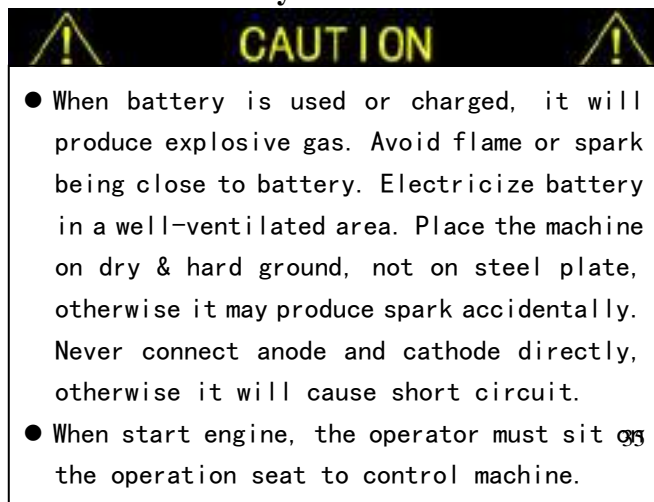
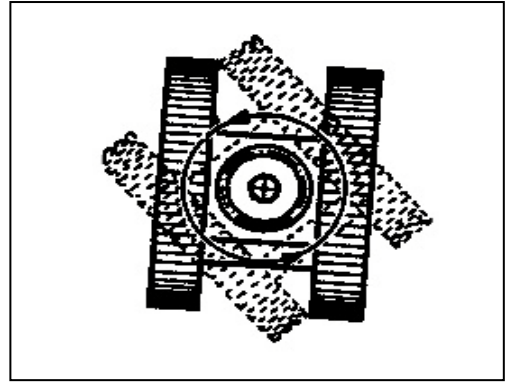
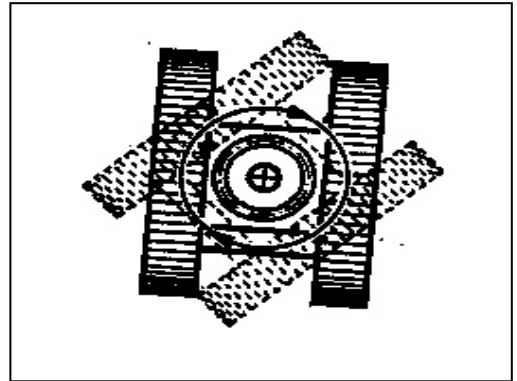

FIG. 3-6
FIG 3-9
FIG.3-10
- Turn left (FIG. 3-9): Treadle right pedal 2 forward and treadle left pedal 3 backwards. (FIG. 3-6)
- Turn right (FIG. 3-10): Treadle right pedal 4 backwards and treadle left pedal 1 forward. (FIG. 3-6)